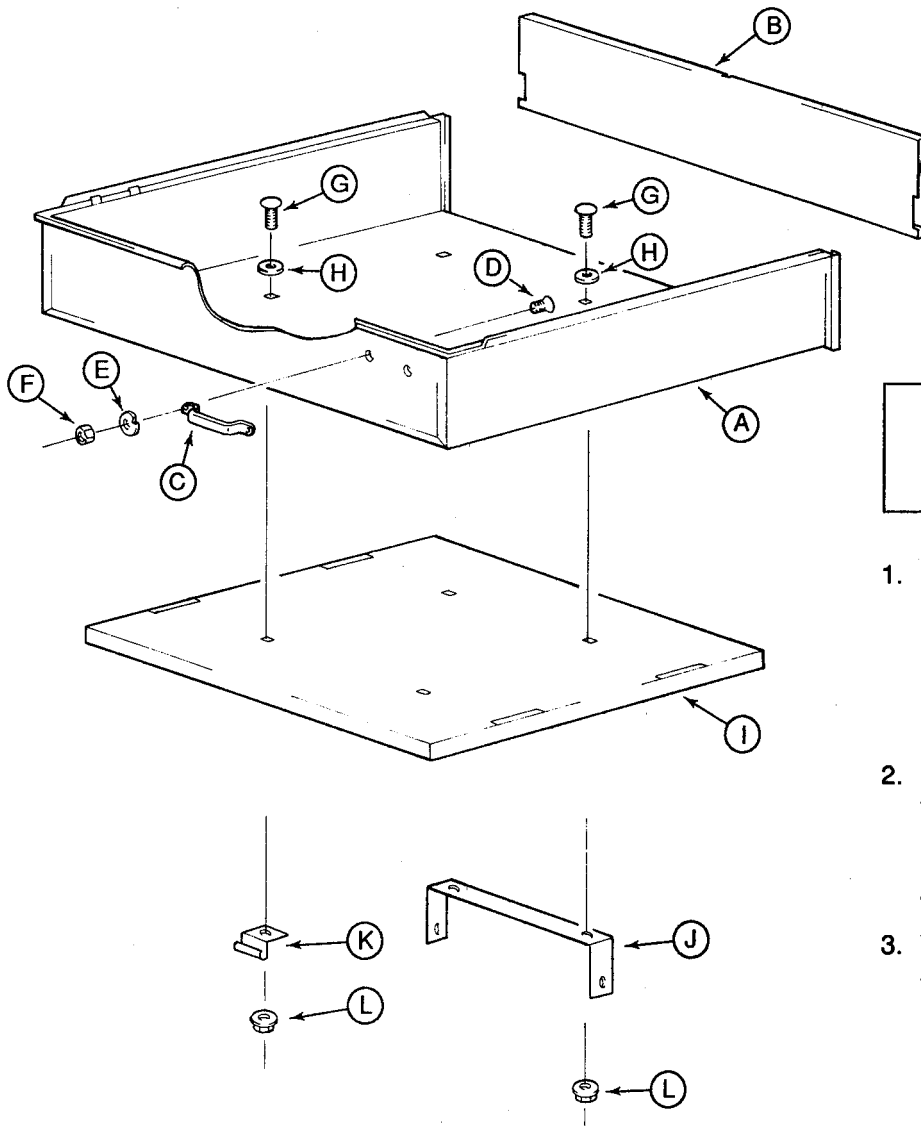
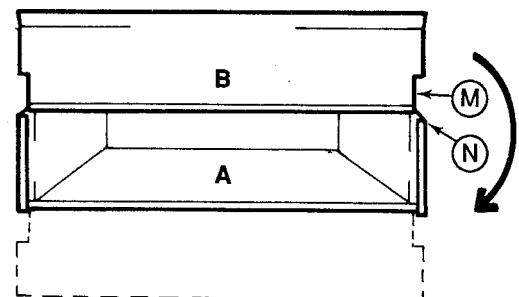

Figure 1
Figure 2
1. Install the dump cart (A, figure 1) to the platform (I) using four new 5/16-18x1 carriage bolts (G), four new 3/8 flatwashers (H), and four existing 5/16-18 locknuts (L). Install the carriage bolts from the top as shown. Discard the existing 5/16-18x3/4 carriage bolts.
2. When installing the new carriage bolts, the rear two bolts attach the platform to two clips (K) which hold the latch rod. Be sure that the latch rod with spring is installed in its original position so that it will work properly.
3. The tailgate (B, figure 2) lifts out for easy removal or swings down for unloading. To swing the tailgate down, lift the tailgate up so that the slots (M) are just above the track (N) and then swing down.